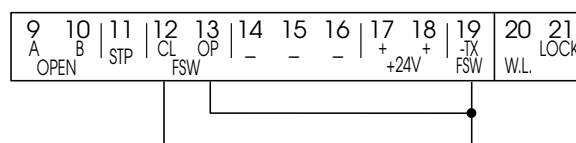

Fig. 7
**If no closing safety devices are connected, jumper connect terminals CL and -TX FSW (fig. 7).**
**If no opening safety devices are connected, jumper connect inputs OP and -TX FSW (fig. 7)**